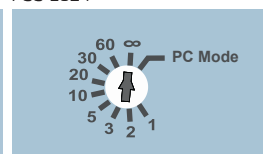

Fig. 7
Use the rotary switch (4) to set the desired buffer time (Fig. 7).